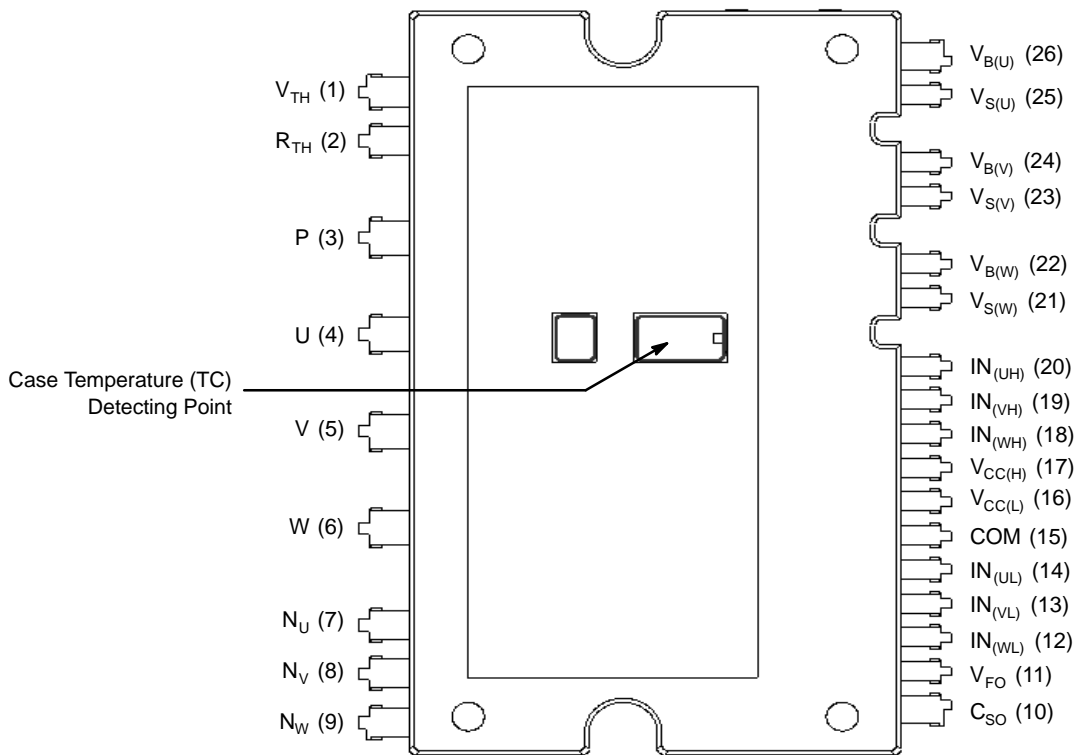

Figure 1. Top View
6. For the measurement point of case temperature ( $T_C$ ), please refer to Figure 1.